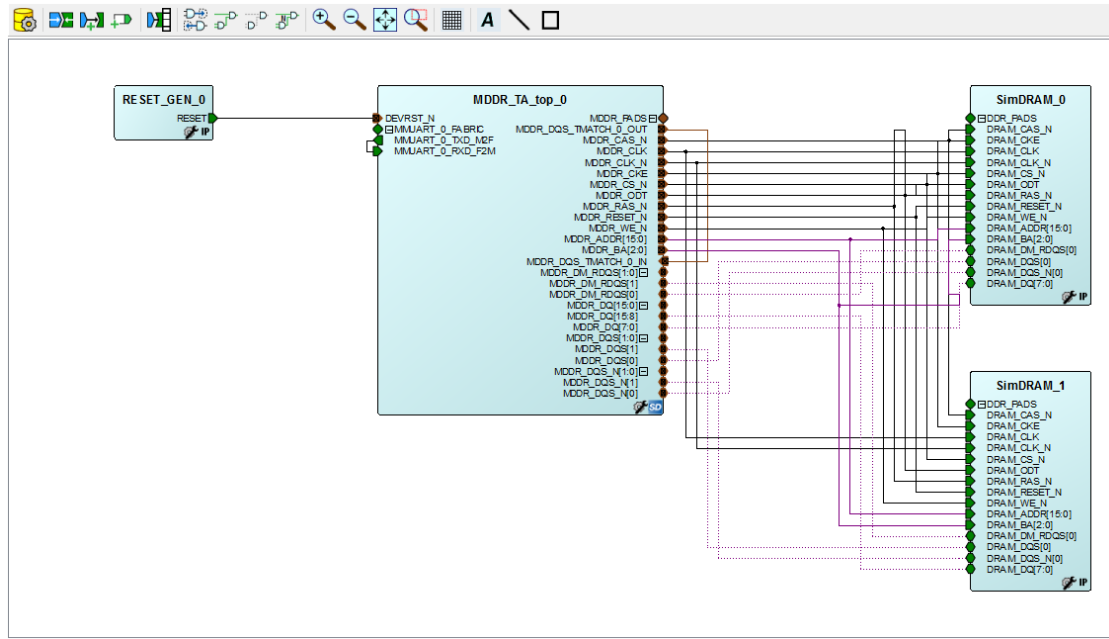

Figure 25 • SmartDesign Testbench for Example Design with Microsemi DDR3 SDRAM VIP
- Connect as described in "Simulation using Microsemi DDR3 SDRAM VIP Model" section on page 22. The connections are same as the Micron model. Figure 25 shows the SmartDesign testbench for the example design with Microsemi DDR3 SDRAM VIP model.